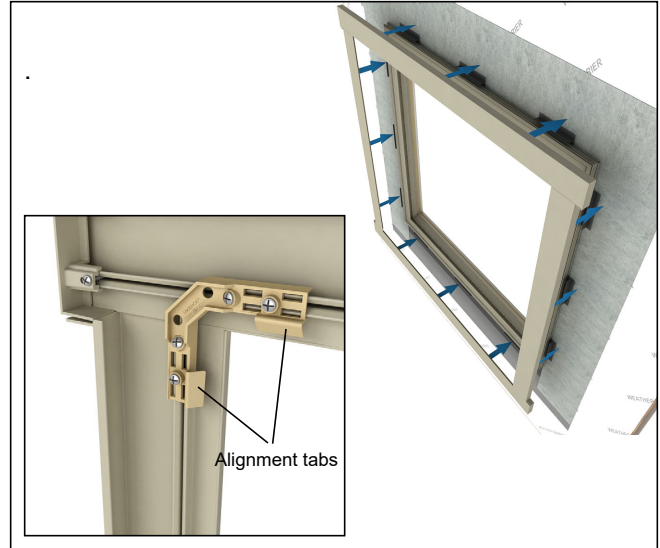

Figure 34
7. Press casing assembly onto connection bars by lining up all corners with the corner key alignment tabs. Press firmly (20-40 pounds of pressure) around the entire casing assembly until it is seated fully on frame. **Do not use excessive force, mallets, hammers, etc.** See *figure 34*.